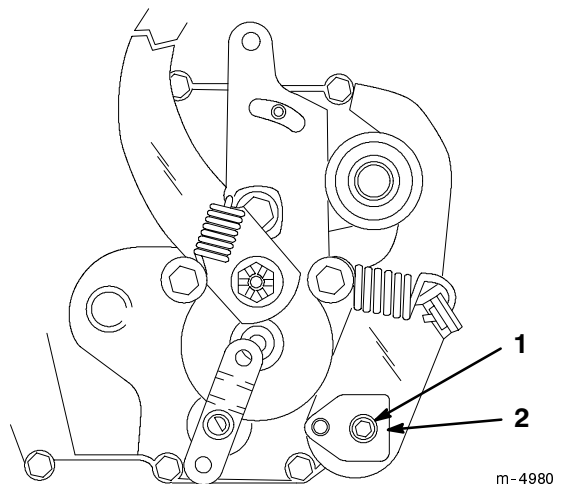

Figure 4
Note: To gain access to the adjusting puck (Fig. 4), it may be necessary to remove the tire.
3. Loosen the adjusting puck screw (Fig. 4). Rotate the puck 5 degrees in the opposite direction the wheels rotate. Tighten the screw and torque to 250 to 320 in-lb.